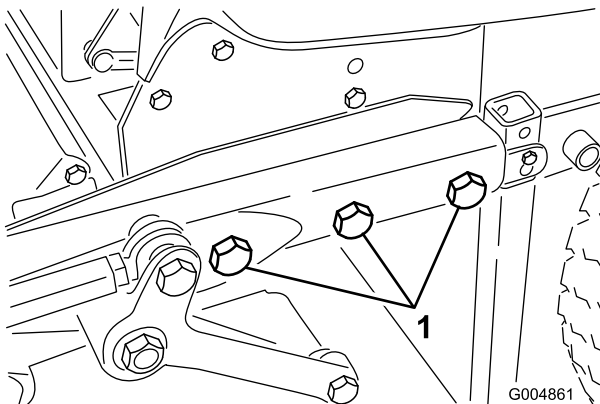

Figure 103
14. Carefully remove the bolts (3/4 inch), washers and nuts that secure the deck frame to the rear frame (3 on the left side and 2 on the right side) (Figure 103). Retain 4 of the bolts for re-installation and store the remaining for summer change over.